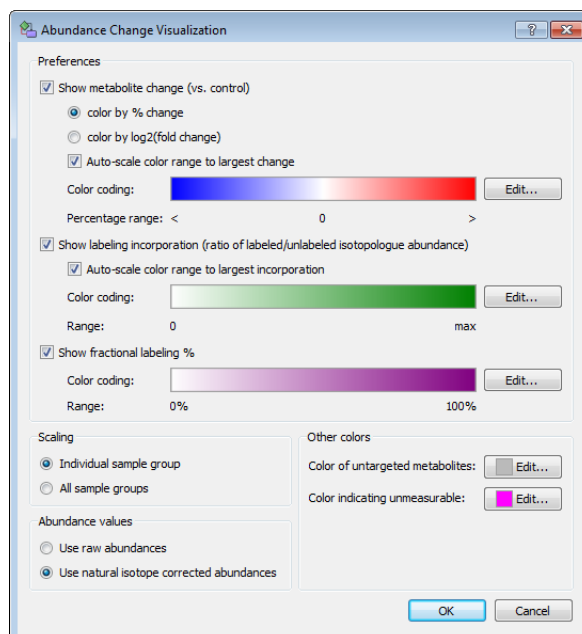

Figure 115 Abundance Change Visualization dialog box
Visualize up to three different summary statistics within the metabolite node: (1) metabolite change per group versus the control group, (2) labeling incorporation per group, and (3) fractional labeling percent per group. This visualization mode cannot be used with *Draw structures on the metabolites*. Abundance change parameters are viewed in the **Abundance Change Visualization** dialog box (Figure 115 on page 104) and are represented on the metabolite node as shown in Figure 116 on page 104. See “Edit Color Coding and Color” on page 106 for editing the colors.
- b Mark **Show metabolite change (vs. control)** in the **Abundance Change Visualization** dialog box (Figure 115 on page 104).
- Mark **Show labeling incorporation (ratio of labeled/unlabeled isotopologue abundances)** in the **Abundance Change Visualization** dialog box (Figure 115 on page 104).
- b Mark **Show fractional labeling %** in the **Abundance Change Visualization** dialog box (Figure 115 on page 104).